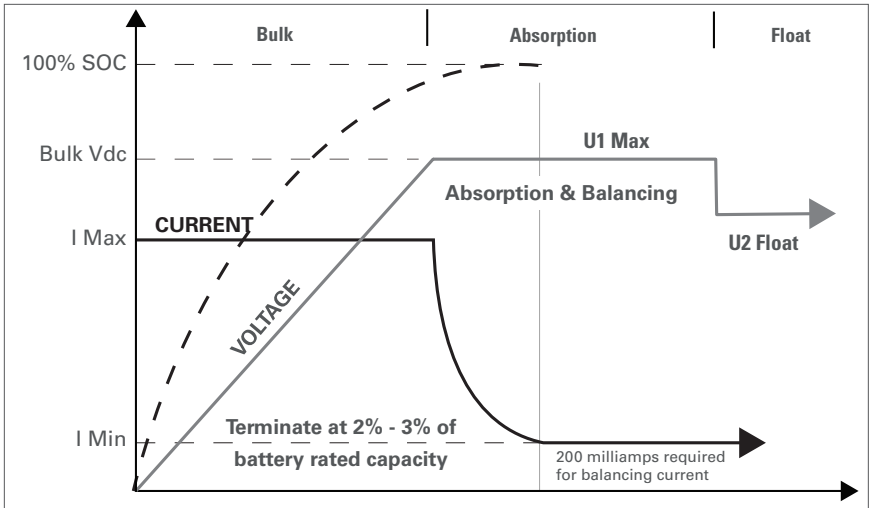

Figure 8. Charge Graph.
Use a Lithium LiFePO₄ charger. Use a charger with a dedicated LiFePO₄ charging algorithm that matches the DLB charging profile and parameters. For charging parameters refer to **Table 2-1. DLB Electrical Specifications** and **Figure 8 DLB Charge Graph**.
- **It is possible.** Short-term charging with a lead-acid charger is possible only if the bulk and absorption voltages are equal to or below the bulk voltage. Refer to **Table 2-1 DLB Electrical Specifications** for charging parameters and **Figure 8 DLB Charge Graph**.